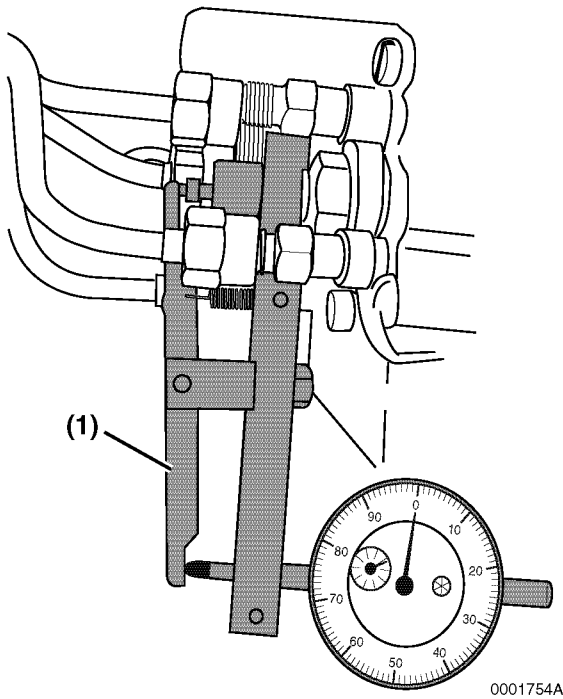

Figure 7-58
4. Install Yanmar timing tool (**Figure 7-58, (1)**), into the port where the bolt was removed. This will provide a reading of the injection pump plunger lift.